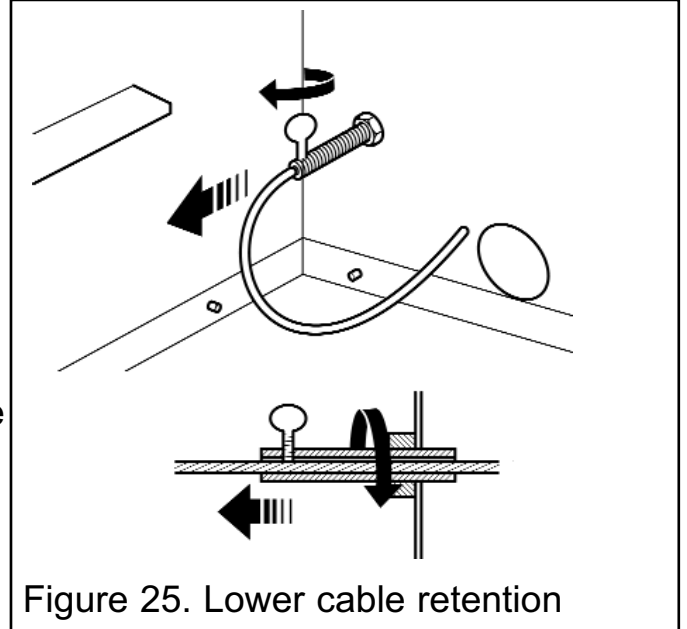

Figure 25. Lower cable retention
**11.** Pull each cable taut. Push the cable retainers hard up against the back panel. The end of the cable adjuster will pass into the hole. Tighten the screws in the retainers so that they clamp the cables in position. Apply tension to the cables by turning the hexagonal adjusters by hand (See figure 25).